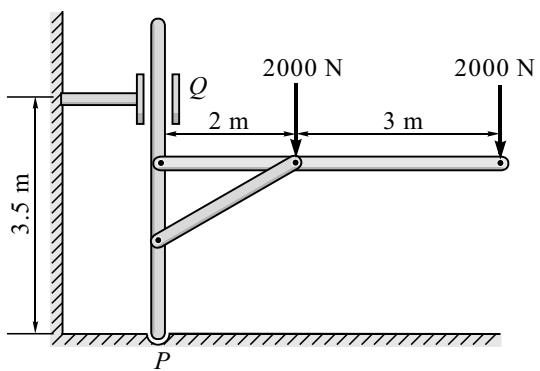

Fig. 3.E25
26. *A* and *B* are identical smooth cylinders having masses of 100 kg each as shown in Fig. 3.E26. Determine the maximum force *P* which can be applied without causing *A* to leave the floor.